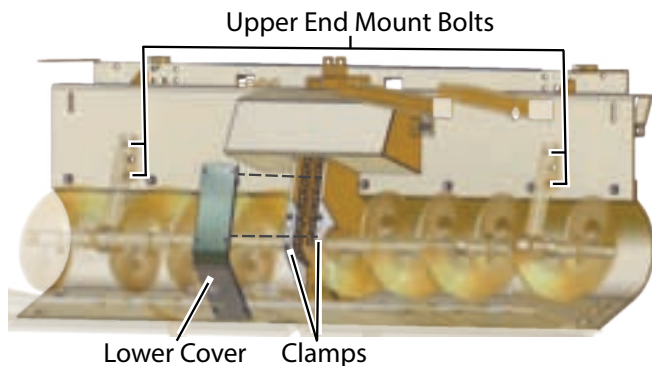

Figure 5-34. Lower Cover and Clamps (Top View)
4. Remove lower auger bearing cover, then remove auger clamps on each side. **(Figure 5-34)**
7. Remove the upper end-mount bolts. **(Figure 5-34)**